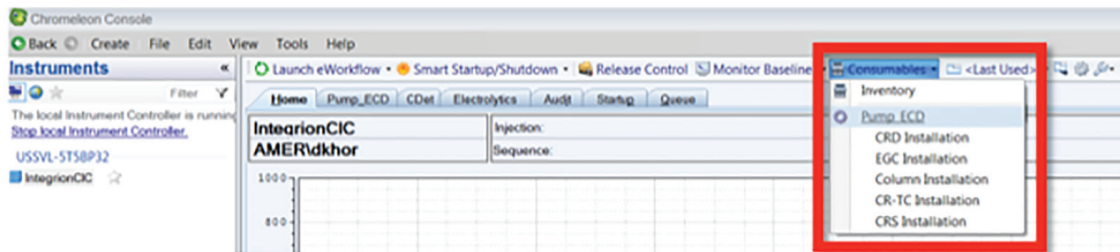

Figure 13. Consumables installation instructions on instrument panel.
Install the Thermo Scientific™ Dionex™ EGC 500 KOH Potassium Hydroxide Eluent Generator Cartridge and Dionex CR-ATC 600 Continuously Regenerating Anion Trap Column in the Dionex Integrion HPIC system Reservoir Tray compartment. Condition the devices according to instructions in the Chromeleon Instrument Panel, drop-down menu (Consumables, Install) (Figure 13). This information is also available in the product manuals and the Dionex Integrion HPIC System Operator's manual.
3. Condition the columns for 30 min according to the instructions from the Consumables, Install Column section in the Chromeleon CDS software (Figure 13).